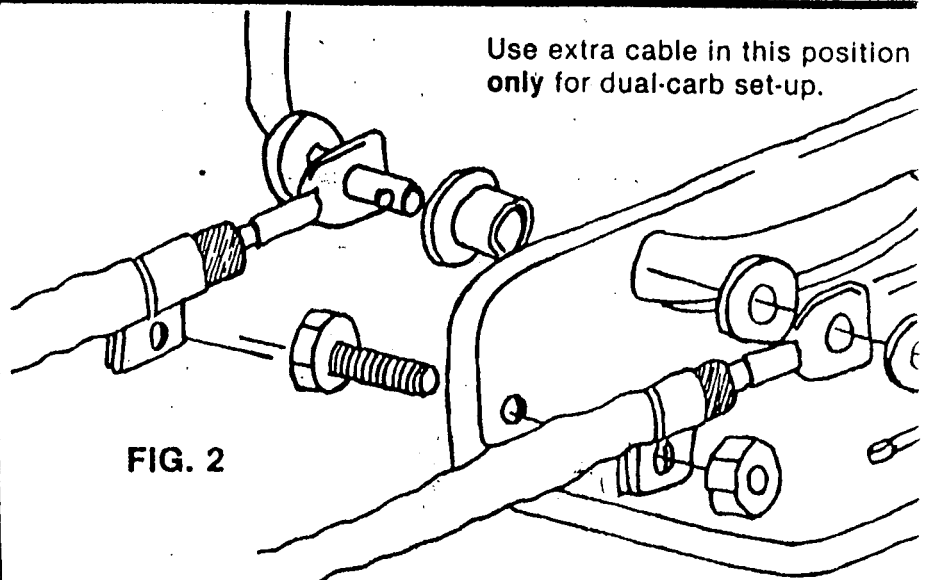

FIG. 2
5. Install large washer, cable end fitting, small washer and cotter pin as shown in (Fig. 2).
8. Secure cable housing to pedal base, at clamp, with bolt and nut (see Fig. 2).